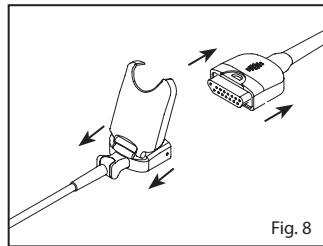

Fig. 8
2. Refer to **Fig. 8**. Pull firmly on the connector to remove from the patient cable. To avoid damage, pull on the connector, not the cable.